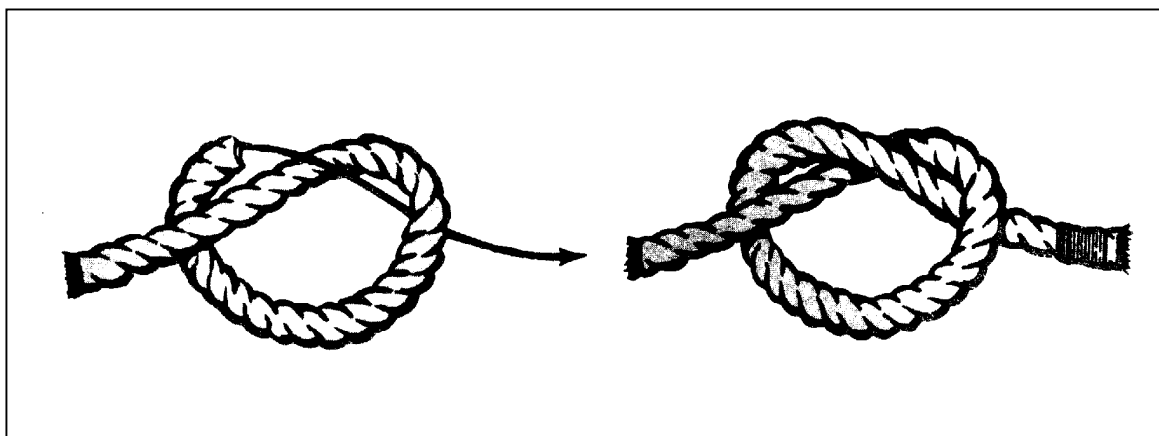

Figure 11-1. Overhand knot
a. Overhand Knot. The overhand knot (Figure 11-1) is the easiest knot to make and the most frequently used knot. It is used to keep the end of a tent line from slipping through the center of a grommet.
b. Footstop for a Single-Grommet Fastening. A footstop for a single-grommet fastening (Figure 11-1), is a loop in a line that slips over a footstop pin at the bottom of a tent. It is formed by tying the two ends of a footstop line in a single overhand knot.
c. Footstop for a Two-Grommet Fastening. A footstop for a two-grommet fastening is formed by tying an overhand knot, (Figure 11-1}, at each end of a footstop line.